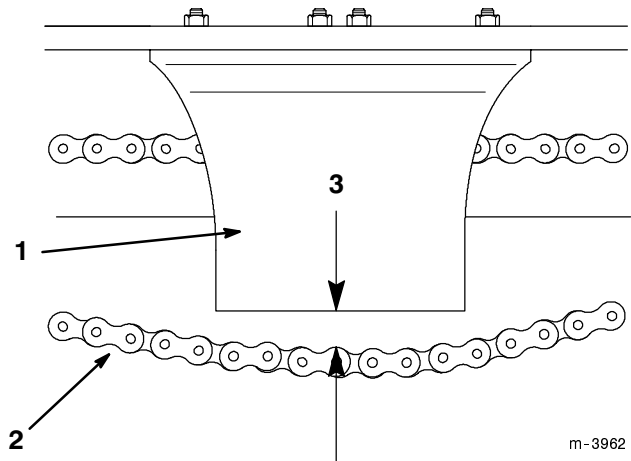

Figure 22
4. Measure the distance between the bottom of the chain guard and the lower chain span (Fig. 22). If the slack in the chain is not within 1-1/2 to 2-1/2 inches (3.8 to 6.35 cm), adjust the tension (refer to Adjusting the Tension).